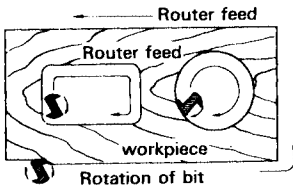

Fig. 18
- (2) The bit rotates clockwise (arrow direction indicated on the base). To obtain maximum cutting effectiveness, feed the router in conformance with the feed directions shown in Fig. 18.